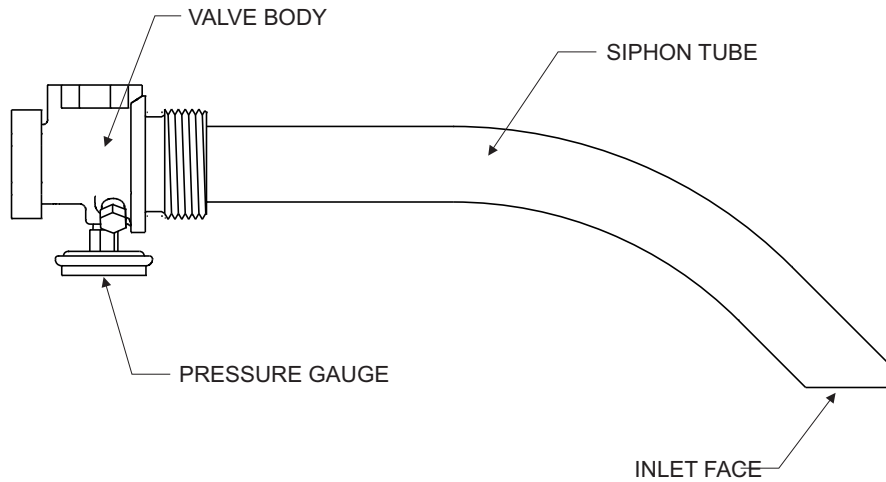

Figure 7-3. Siphon Tube Orientation
8. Screw the siphon tube in the valve body until bottomed-out, then unscrew siphon tube until the inlet face is parallel to the pressure gauge face. Allow Loctite to cure. See Figure 7-3 and Warning.
Failure to install the siphon tube as described above and shown in Figure 7-3 will result in incomplete discharge of dry chemical.